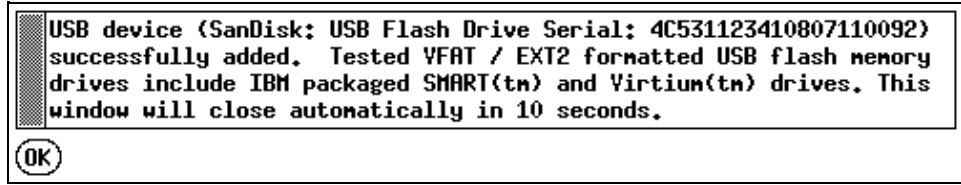

Figure 8-119 HMC - SAIOCP: USB drive insertion message
11. Insert the USB flash memory drive that contains the IOCP text file. Wait for the drive insertion message to open (Figure 8-119).